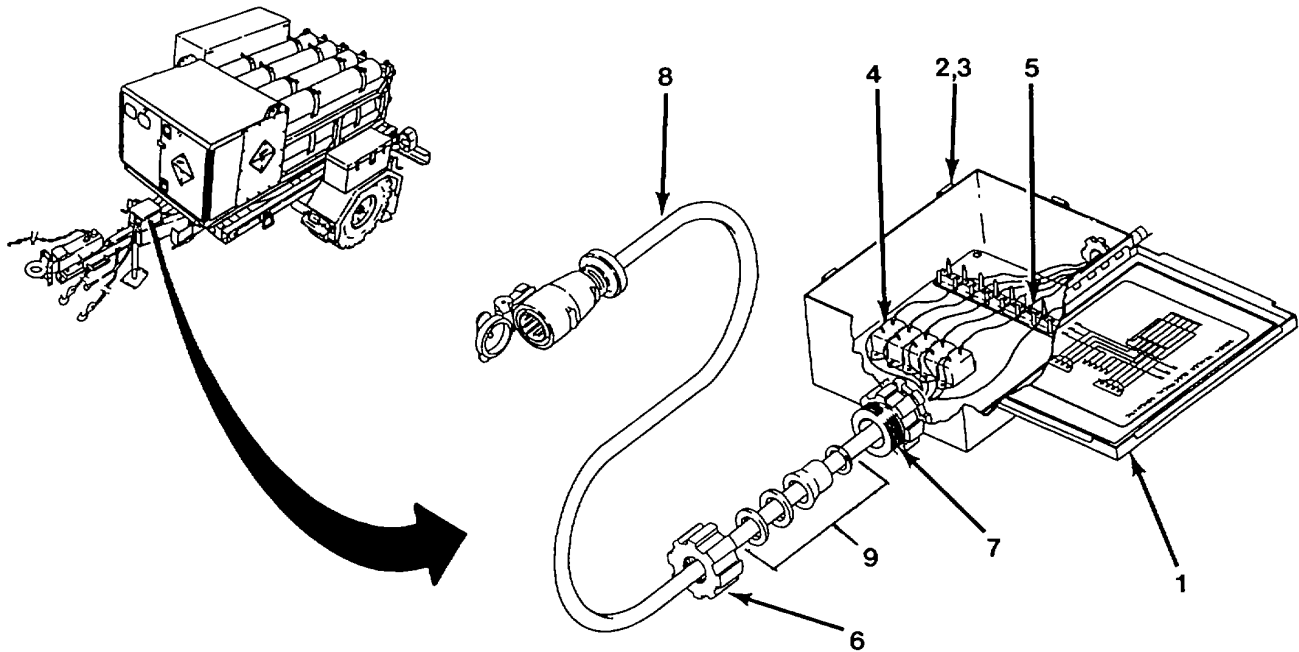

Figure 4-41. Replace Intervehicular Cable.
- (4) Refer to Figure 4-41 and insert packing assembly(9) into stuffing tube body (7) thread cap (6) onto body
- (5) Adjust position of cable (8) so that connections in electrical box (1) are not stressed.
- (6) Tighten cap (6) on body hand tight. Then, tighten cap an additional 1/2 turn.
- (7) Spray a coat of electrical varnish (Item 18, Appendix D) on connections between cable, five fusible links (4), and terminal board (5).
- (8) Close lid on electrical box (1) and secure by sliding four clips (3) over edge of lid and tightening four screws (2).